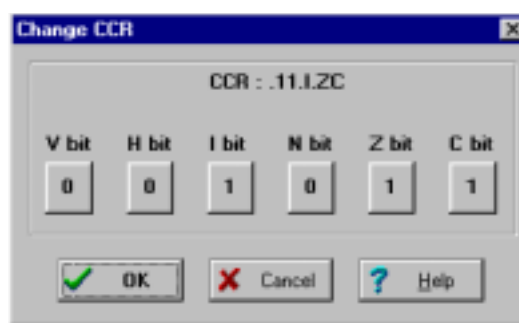

Figure 9-7. ICD08SW Set CCR Window
- **Set PC** — Sets the program counter (PC) to a user-defined value. Upon selecting this option, the user is prompted for a value.
- **Set Condition Codes** — Allows the user to toggle bits within the CCR. Upon selecting this option, the CCR modification window is displayed, as shown in **Figure 9-7**.